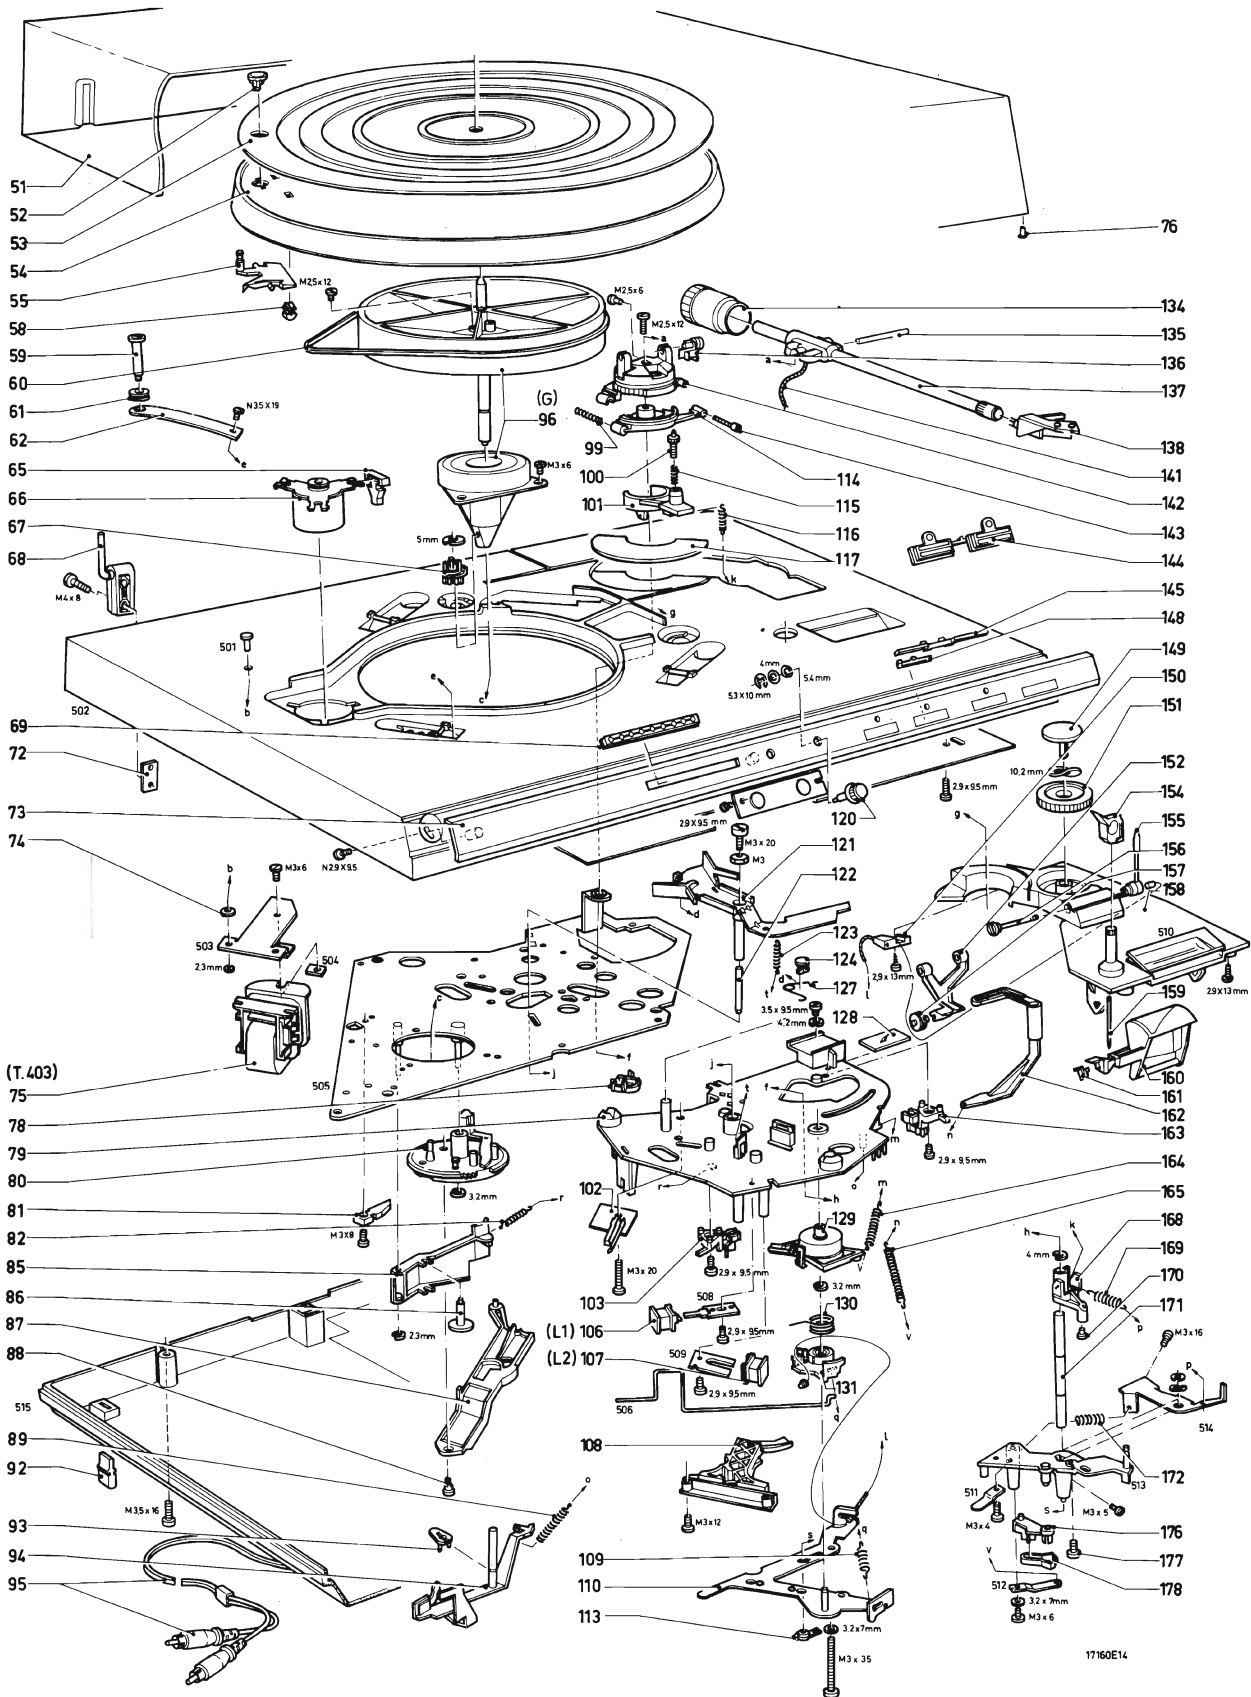

Fig. 11
**LIST OF MECHANICAL PARTS (Fig.11)**